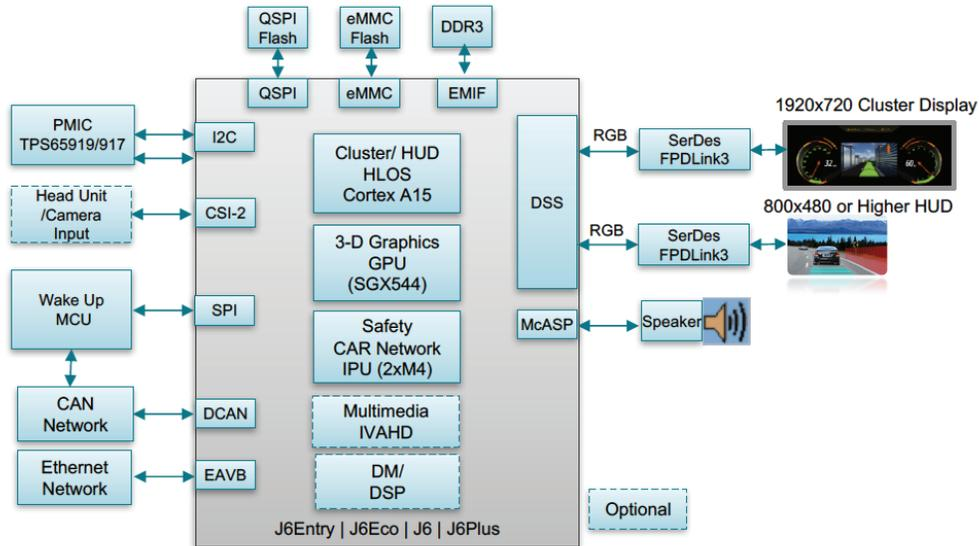

Figure 1. Digital cluster system block diagram.
**Figure 1** shows a high-level system block diagram for a digital cluster solution based on TI Jacinto 6 SoCs. In a typical digital cluster system, the application processor runs a high-level operating system such as Linux, QNX or Integrity and manages all system components.